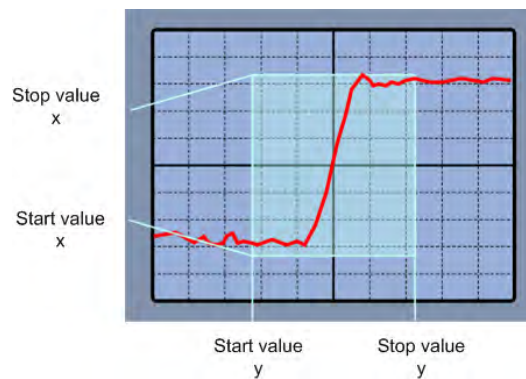

Fig. 5-1: Numeric zoom using start and stop values
4. Define the "Start" and "Stop" values that define the lower and upper borders (respectively) of the zoom area on the y-axis (see figure 5-1).